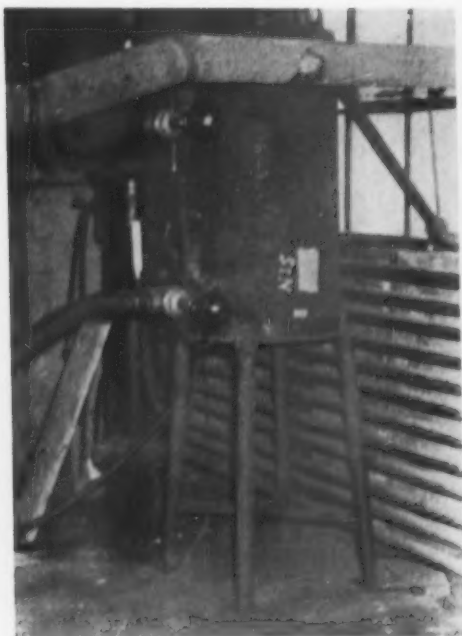

Fig. 1 (upper right)—The shipping stand provides a safe way to ship car engines without damage.
■ No General Motors power plant, used on Budd R. D. C. cars on the Boston & Maine, has been damaged in shipment since the railroad developed the shipping stand shown in Figs. 1 and 4. Engines due for overhaul are